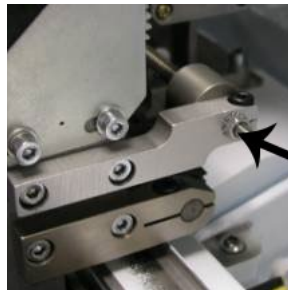

Figure 4 - Remove Nut
7. Remove the nut from the right color change spindle mounting bracket as shown in Figure 4.